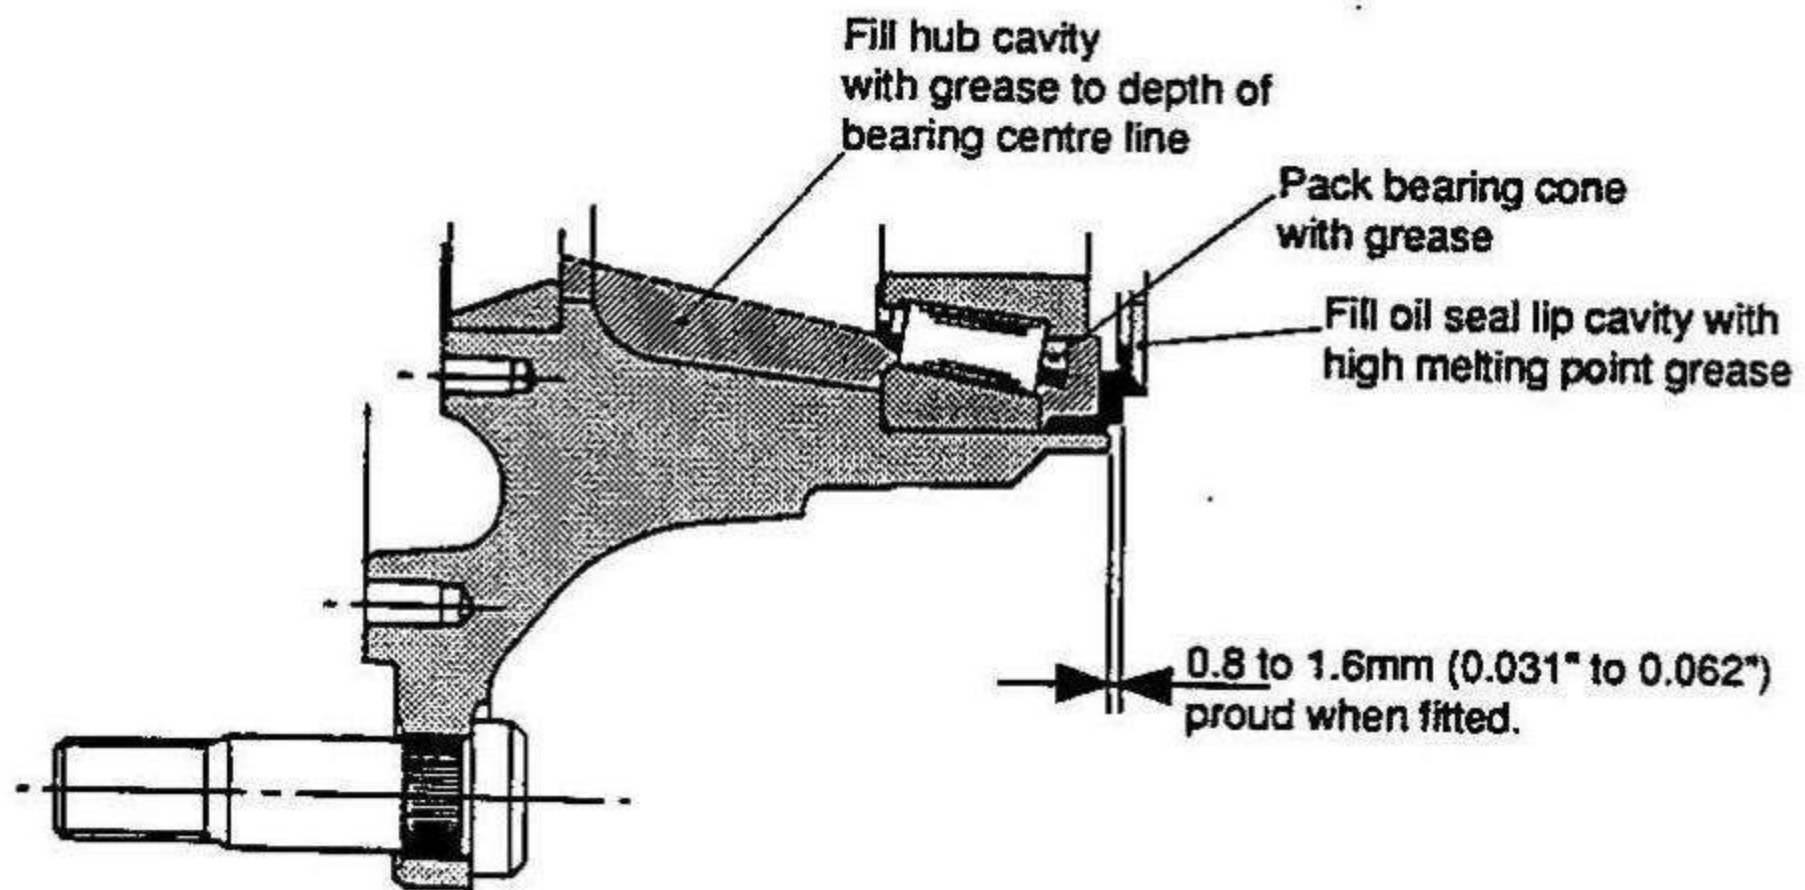

Fig.5
- b) Re-fit hub distance piece (13) on to stub axle (14).
- c) Fit hub bearing cups (5 & 51) into their respective bores in hub, then pack hub cavity with grease (Shell Retinax LX or equivalent) to a depth equivalent to bearing centre line. See fig 5.
- e) Place inner hub bearing cone (51A) into position abutting its cup (51) in hub (8) .
- f) Fit oil seal (11), open side first, into position in hub (8), with metal case of seal protruding between 0.8 to 1.6mm (0.031" to 0.062") when fitted. See fig 5.
- g) Fill oil seal lip cavity (11) with high melting point grease (BP Keenomax L2 or equivalent) then offer hub assembly to axle stub (14) taking care not to damage oil seal lips (11) in the process.
- h) Tap hub outer bearing cone (5A) into place abutting its cup (5) followed by collet washer (4).
- i) Fit inner bearing nut (3) and tighten hard with special tool No E456.